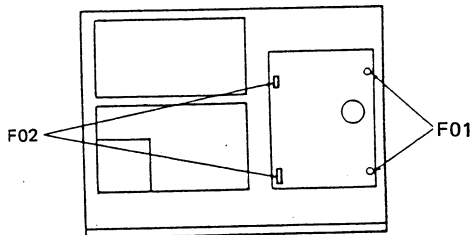
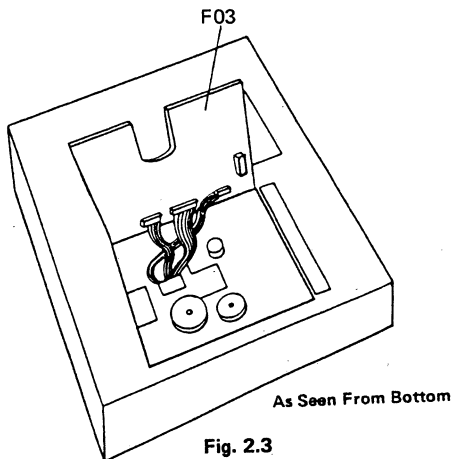

Fig. 2.2
Fig. 2.3
- (1) Refer to Fig. 2.2 and Fig. 2.3.
- (2) Remove the Top Cover Ass'y and the Bottom Cover Ass'y referred to in item 2.1.
- (3) Remove F01 and F02 (P.C.B. Support) and five connectors (CN-101, CN-102, CN-103, CN-202 and CN-203), then F03 (Servo P.C.B. Ass'y).